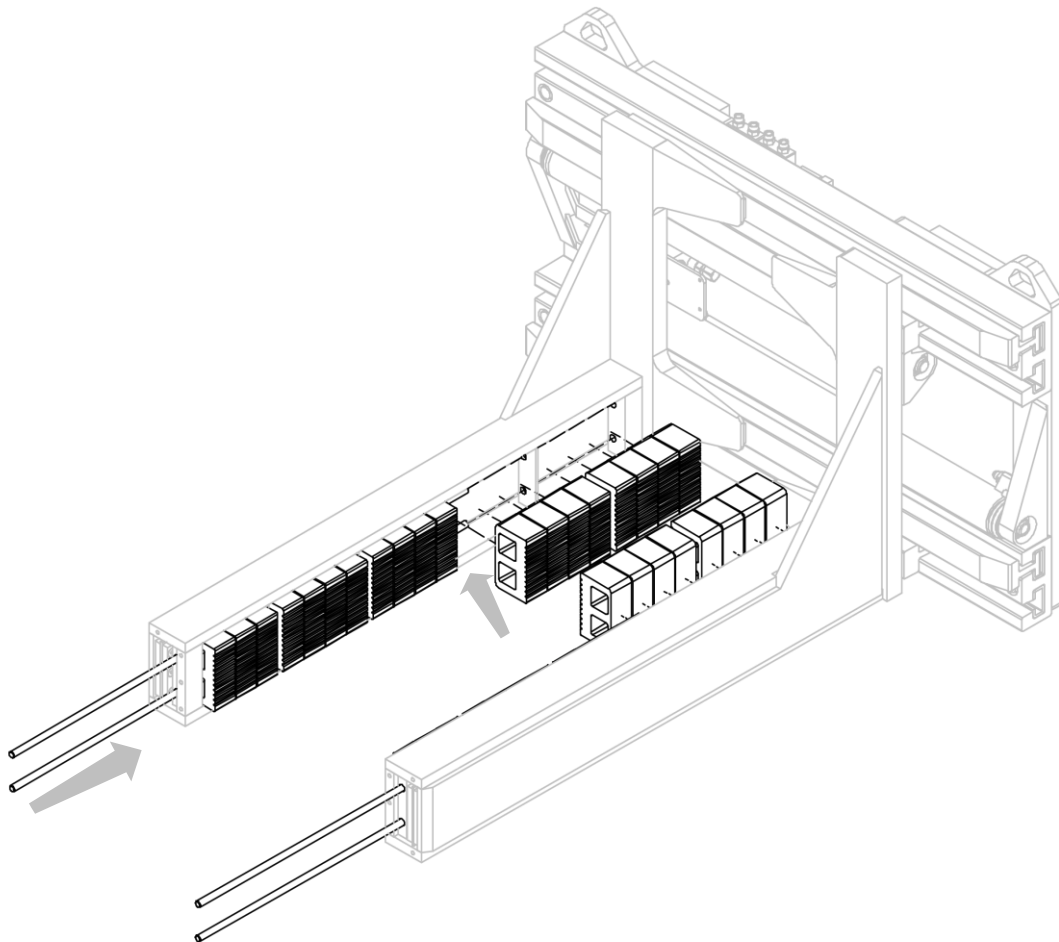

Figure 18
2. Position the fastening pins in the appropriate housings, taking care to insert the polyurethane blocks at the same time (see *Figure 18*).